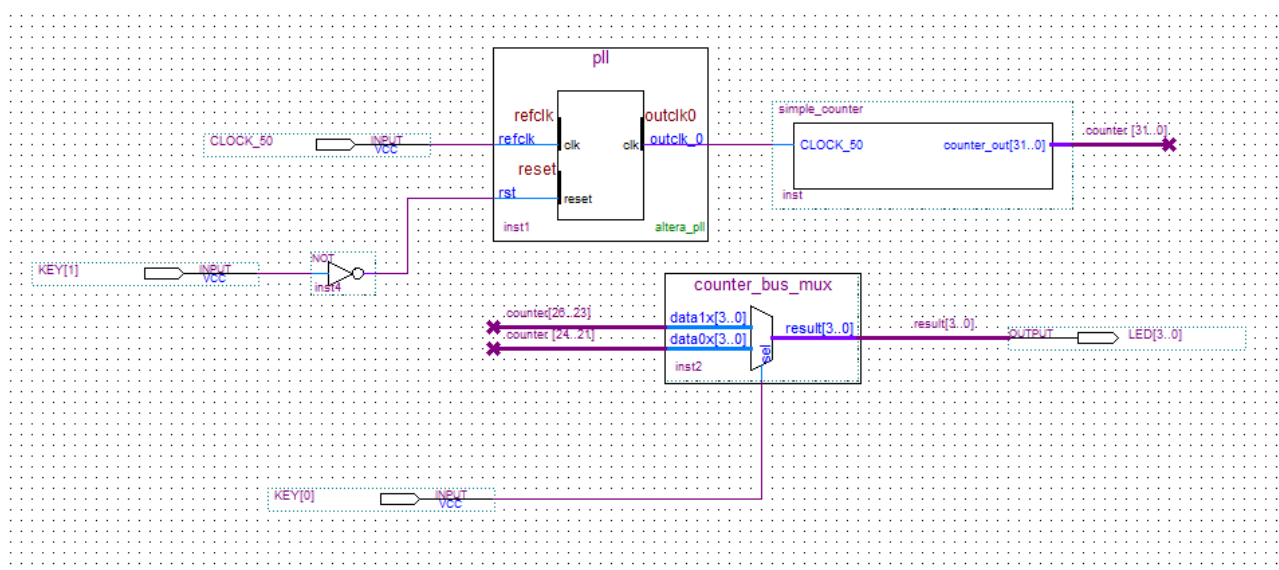

Figure 3-30 Place the not pin
27. Place this not pin so that it connects to KEY[1] and the pll rst (see **Figure 3-30**).